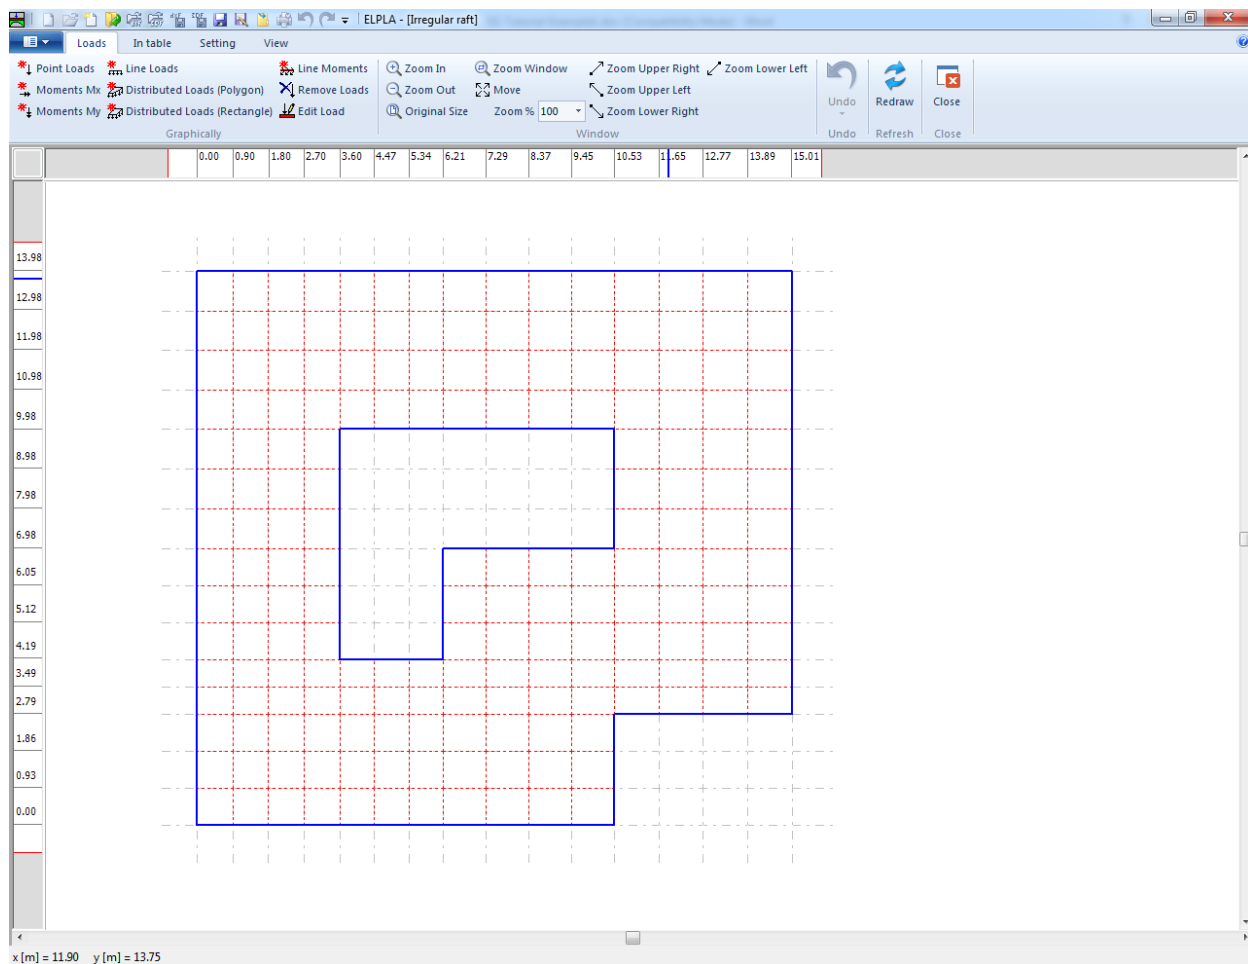

Figure 1.27 "Loads" Window
To define the loads, choose "Loads" command from "Data" Tab. The following Window in Figure 1.27 appears.
In *ELPLA*, entering loads may be carried out either numerically (in a table) or graphically using the commands of "Loads" Tab in Figure 1.27. In this example, the user will learn the definition of loads numerically.
- Choose "Point Loads" command from ""In Table" menu in the window of Figure 1.27.